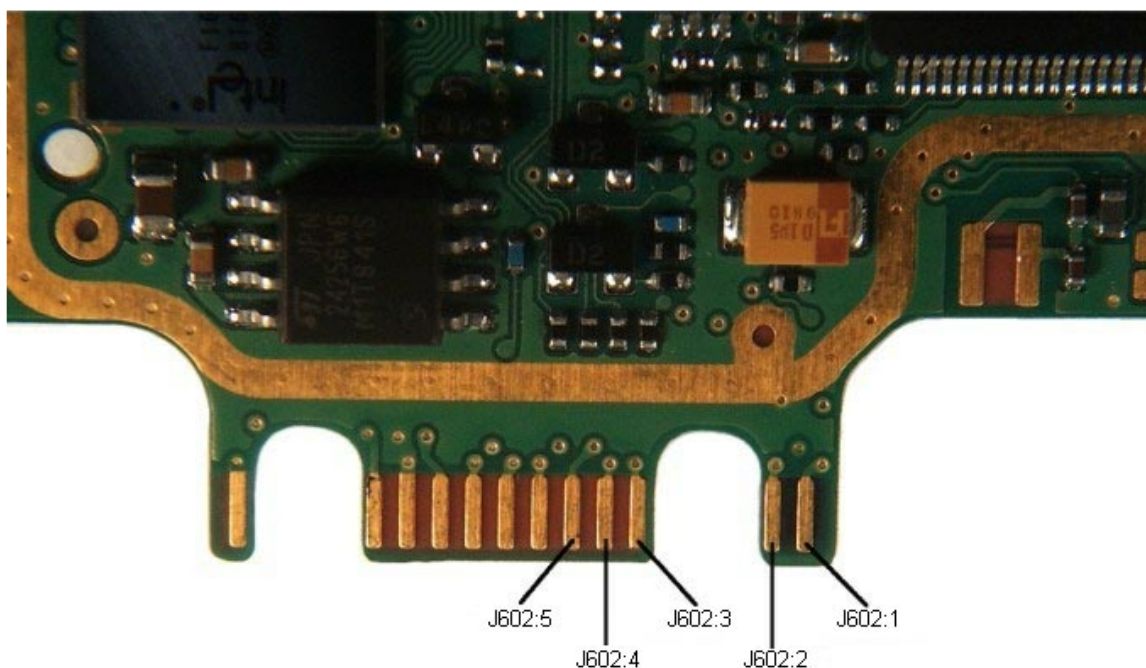

Fig. 4.4
Open the phone and check for liquid damages especially around pads 1, 2 and 4 of the system connector pads (J602, fig. 4.4).
Measure the resistance from pad 2 of J602 (fig. 4.4) to ground (>30 kohms).
Measure the voltage at pad 2 of J602 (ATMS, ~ 3.1 V, fig. 4.4).
- If the voltage at pad 2 of J602 is correct, check the resistances of C810 (>5 kohms), C812 (>5 kohms), R802 (~ 10 kohms), R805 (~ 15 kohms) and R803 (~ 1 kohms, all of class A and in fig. 4.4).
Open the phone and check for liquid damages, especially around the system connector pads 1, 2 and 4 (J602, fig. 4.4).
Open the phone and check for liquid damages, especially around the marked area above the system connector pads (fig. 4.4).
Measure the resistance from pad 3 of J602 to **unmarked** side of R635 (~0 ohms, fig. 4.4 and 4.1).
Measure the resistance from pad 5 of J602 to **unmarked** side of R636 (~0 ohms, fig. 4.4 and 4.1).
Connect a call and measure the voltage between pin 4 (AGND) and pin 6 (Mute) of J602 (~3.2V when a call is in progress, Fig. 4.4).
Measure the resistance from pad 6 of J602 to ground (>100 kohms, fig. 4.4).